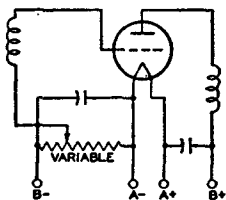
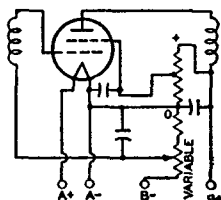

Fig. 68
Fig. 70
Grid-bias variation for the rf and if amplifier stages is a convenient and frequently used method for controlling receiver volume. The variable voltage supplied to the grid may be obtained: (1) from a variable cathode resistor as shown in Figs. 68 and 69; (2) from a bleeder circuit by means of a potentiometer as shown in Fig. 70; or (3) from a bleeder circuit in which the bleeder current is varied by a tube used for automatic volume control. The latter circuit is shown in Fig. 51.